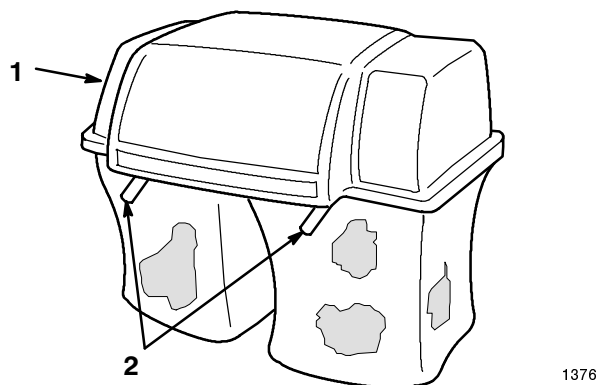

Figure 20
- Lower the bagger top onto the bags. Then push down on both bag retainer handles until they lock on the bag frame (Fig. 20).